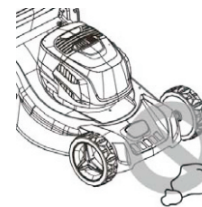

Fig.10A
- c) Before mowing, check and clear any debris, stones or objects from the lawn which may be thrown by the machine. While mowing, stay alert for any objects which may have been missed. (Fig.10A)